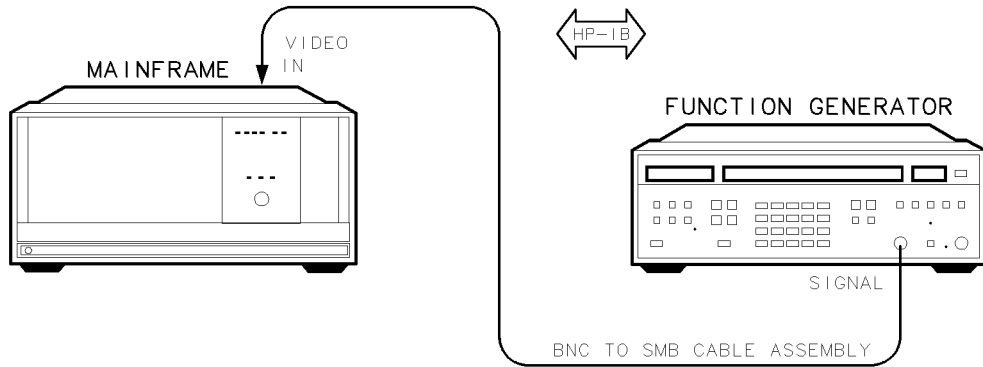

Figure 7-11. Video Detector Tracking Test Setup
1. Connect the HP 3325B synthesized function/sweep generator’s SIGNAL output to the DUT’s rear panel VIDEO IN jack using the BNC-to-SMB cable assembly, as shown in Figure 7-11.